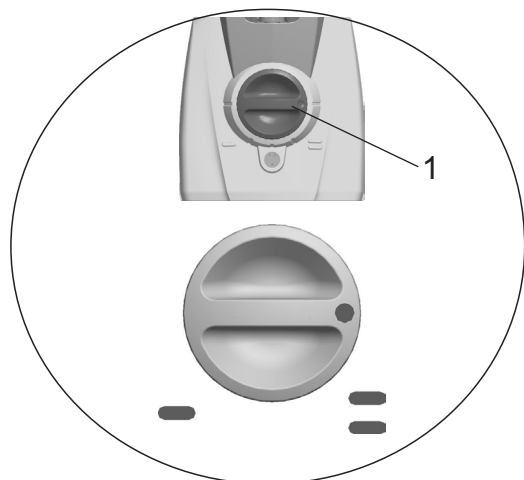

Fig. 4
The stapler is adjustable for 15 or 18 mm staples. The stapler setting for a different staple leg length is altered as follows. Start by adjusting the depth of stapling for deep clinching (=) as shown in Fig. 4.
- Depress the knob (Fig.4/1) and turn it to any of the five positions.